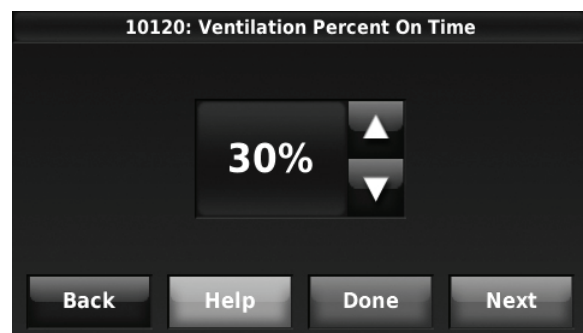

Fig. 260.
8. If Percent On Time was selected for ISU 10050, select the Ventilation Percent on Time. See Fig. 260.